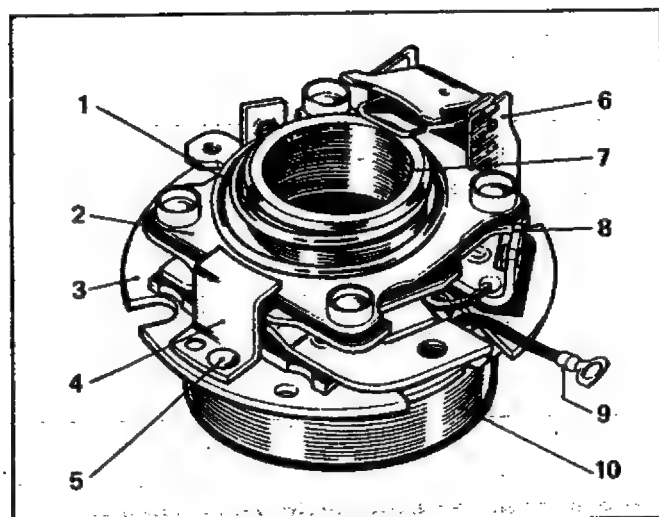

Fig. 70 – Solenoid switch assembly.
The coils can be checked for short or open circuits by measuring current consumption at nominal voltage. 12 VOLT STARTER SOLENOIDS ONLY are dual wound and consist of a pull-in and a hold-on winding, therefore before testing these, a link should be made between the base of the contact assembly (see Fig. 70), and the terminal lug on EARTH RETURN versions, or between the green lead and terminal lug on insulated RETURN VERSIONS.
6. Insert main terminal (22) into position from inside the housing, and replace bush (24), rubber ring, insulating washers, plain washers, spring washers and nut (23). Pressing down the plunger gives room to insert the main terminal. Do not tighten until item 7 has been carried out. Add the solenoid terminal tag (9) Fig. 70.